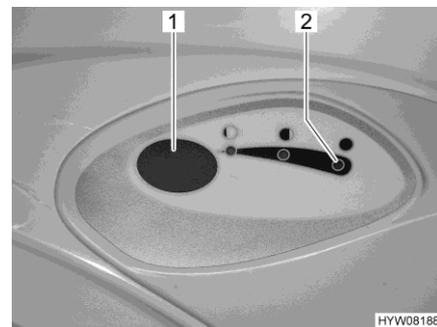

Fig. 300 Flush button/indicator lamp
- For flushing, press the blue flush button (Fig. 300,1).
The indicator lamp (Fig. 300,2) lights up whenever the sewage tank has to be emptied.